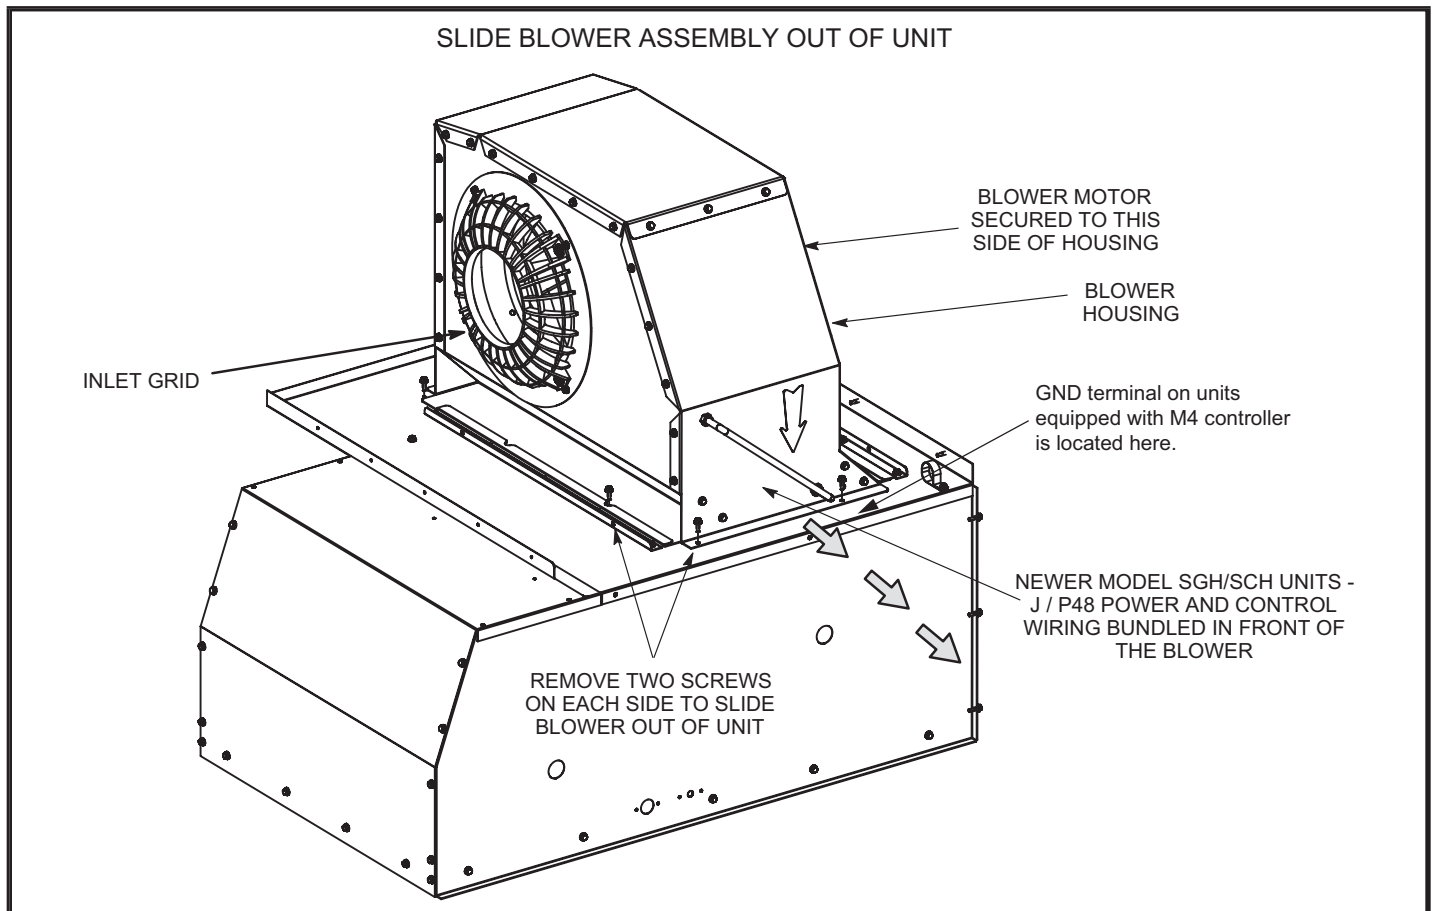

FIGURE 4
- 8 - Remove four screws securing blower assembly to unit. See FIGURE 4.
- 19 - Install blower assembly flanges into rails on the blower deck in the same manner the discarded housing was removed. Secure into place using four screws shown in FIGURE 4.
- 22 -Install replacement blower assembly flanges into rails on the blower deck in the same manner it was removed. Secure into place using four screws shown in FIGURE 4.
- 30 -Install replacement blower assembly flanges into rails on the blower deck in the same manner it was removed. Secure into place using four screws shown in FIGURE 4.
- 32 -Reconnect P48 in the same manner it was removed. Connect P48 to J48 and screw GND terminal to blower deck. See FIGURE 4.